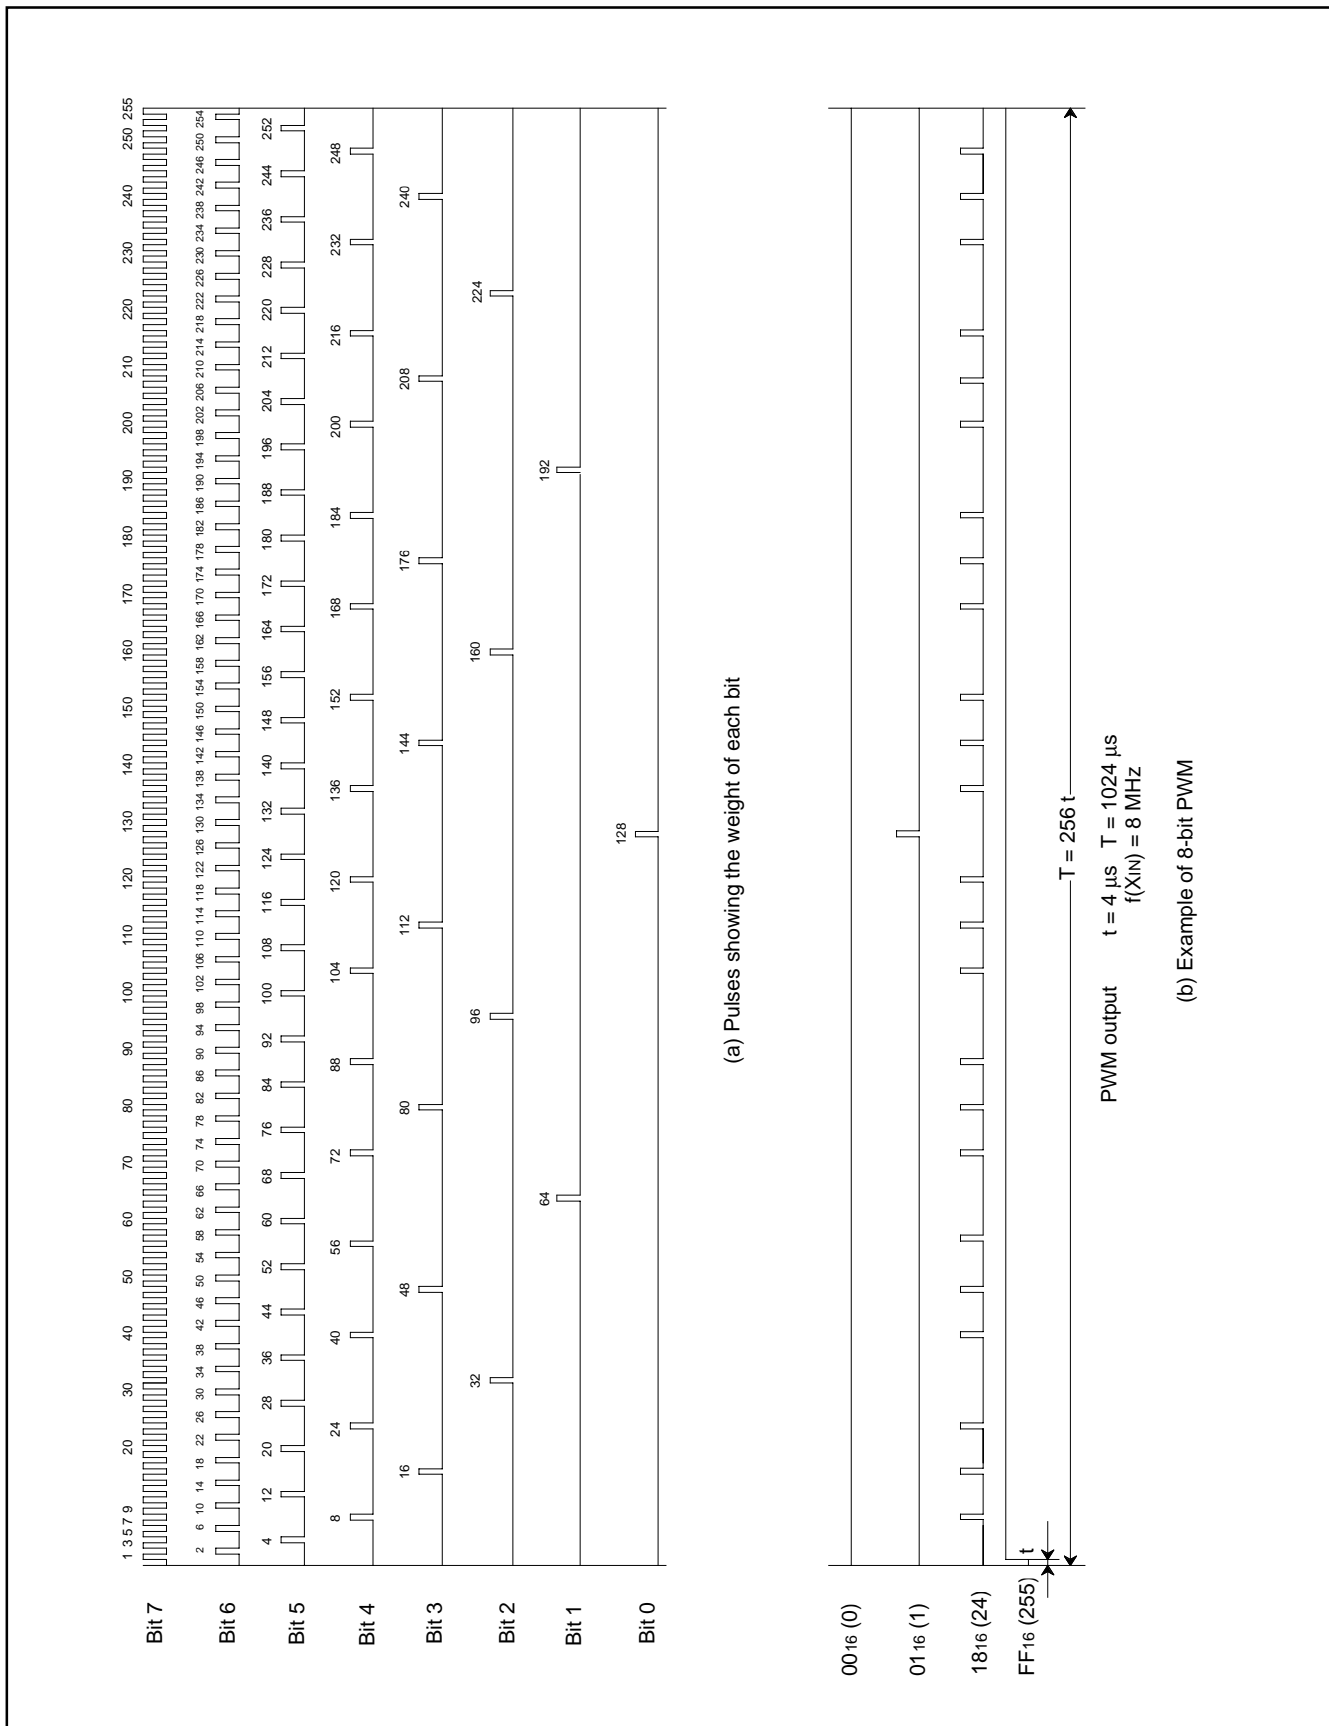

Fig. 8.7.2 PWM Timing
Figure 8.7.2 shows the 8-bit PWM timing. One cycle (T) is composed of 256 (2⁸) segments. The 8 kinds of pulses, relative to the weight of each bit (bits 0 to 7), are output inside the circuit during 1 cycle. Refer to Figure 8.7.2 (a). The 8-bit PWM outputs waveform which is the logical sum (OR) of pulses corresponding to the contents of bits 0 to 7 of the 8-bit PWM register. Several examples are
shown in Figure 8.7.2 (b). 256 kinds of output (HIGH area: 0/256 to 255/256) are selected by changing the contents of the PWM register. A length of entirely HIGH output cannot be output, i.e. 256/256.